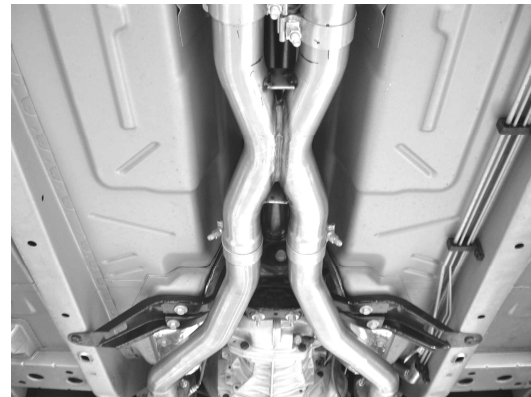

Figure 5
2. Place a clamp over each expanded end of the x pipe assembly and set it into position as shown in figure 5. **DO NOT** tighten the clamps.